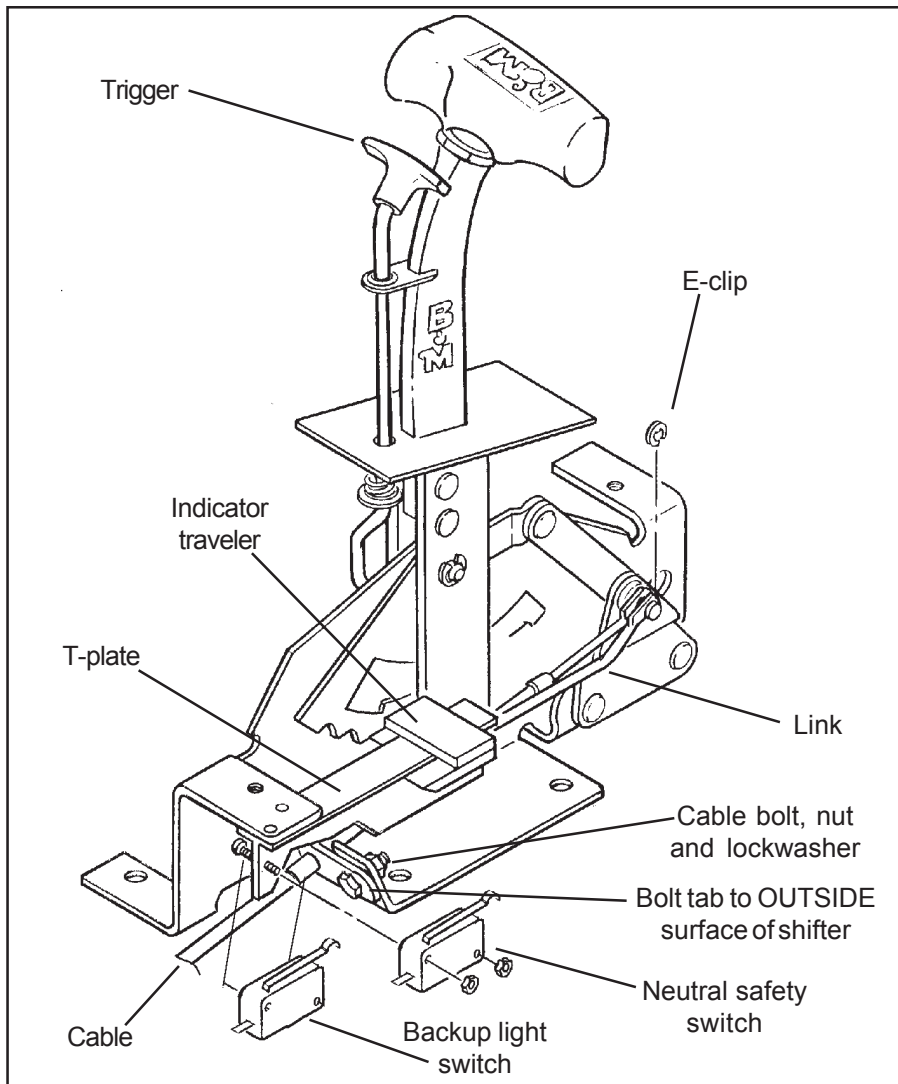

Figure 1
STEP 5. Install the plastic indicator traveler and link onto the T-plate track. The bent end of the link goes through the hole in the traveler from the left side of the shifter. Install the cable on the shifter as shown in **Figure 1.** The cable attachment tab must be bolted to the outside surface of the shifter base using a 1/4" X 1/2" hex bolt, a lock washer and a nut. Put the end of indicator link on the cable pin outside of the shifter cable. Install the e-clip to secure the cable and the indicator link to the cable pin.
STEP 6. Place the shifter in first gear ratchet mode (stick all the way back). Position the backup light switch on the inside of the T-plate and the neutral safety switch on the outside of the T-plate with the long fingers on the switches towards the plastic traveler using the forward pair of holes in the T-plate. Assemble the backup and neutral safety switches to the shifter using two #4-40 screws, nuts and lock washers, as shown in **Figure 1.** **Beware,** over tightening the switch attachment screws will crack the switch housings. Adjust the switches so that the neutral safety switch operates in Neutral and Park only and the backup light switch op-
'66-'68: The neutral safety switch will continue to function normally. It will not be necessary to hook up the neutral safety switch wires on the shifter. Disconnect the battery ground cable before wiring the backup light switch. Locate the original backup light switch on the steering column or the console shifter. Run these wires to the **INNER** switch on the shifter (See **Figure 1**). Reconnect the ground wire and check the light for proper operation. Adjust the switches on the shifter if required.